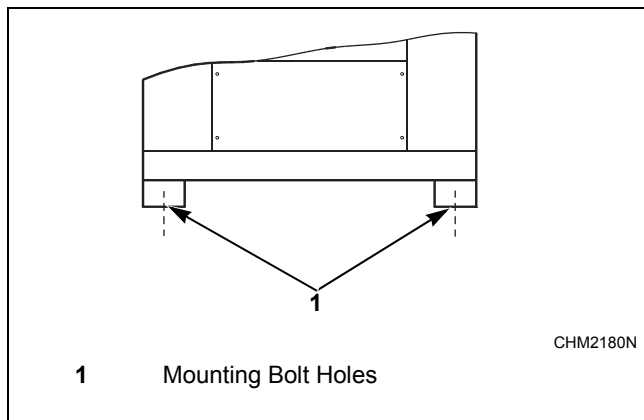

Figure 6
The machine must be placed on a flat, solid surface (metal base, concrete or solid ground). It is recommended that the machine be anchored on the provided places (1) in the base, especially in case of a plinth. Refer to *Figure 6*.